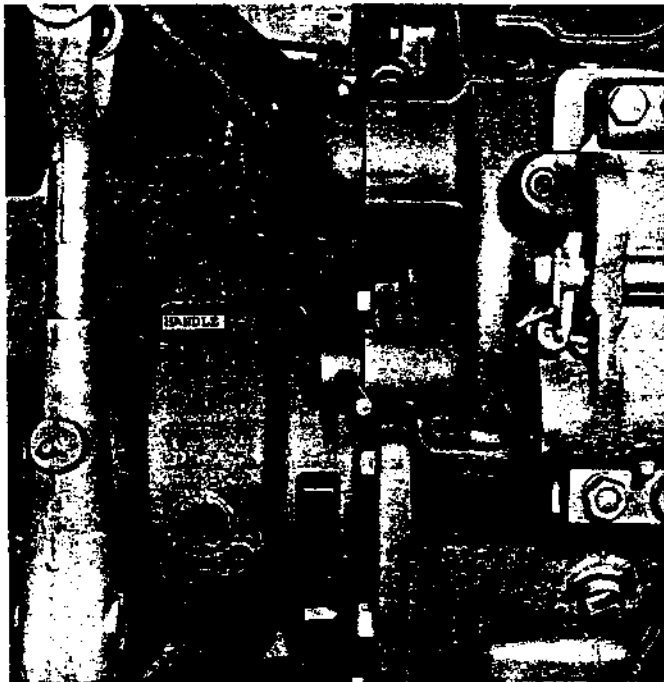

Fig. 7 — Transport Lock — MF 130 Tractor
1. Lock lower links in transport position with transport lock. (Fig. 7)
2. a. Lock lower links in transport position with transport lock, if using conventional swing drawbar. (See Fig. 7)